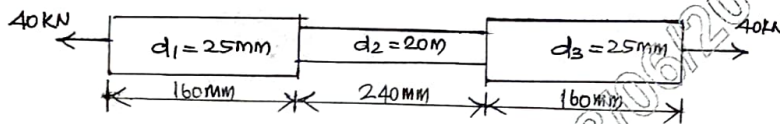

Fig. Q8 (b)
b. A bar shown in Fig. Q8 (b) is tested in universal testing machine. It is observed that at a load of 40 kN, the total extension of the bar is 0.285 mm. Determine the Young's modulus of the material. (10 Marks)